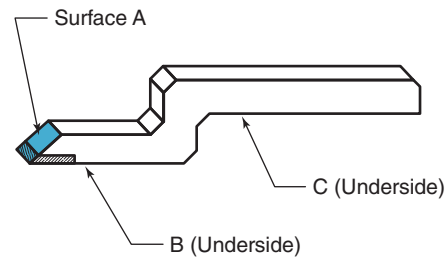

Figure 8-29 Which surface(s) should be reground when sharpening a scribe point?
5. Which surface of a height gage, gooseneck scribe is ground when it's resharpened: A, B, C or A and C together (see Fig. 8-29)?